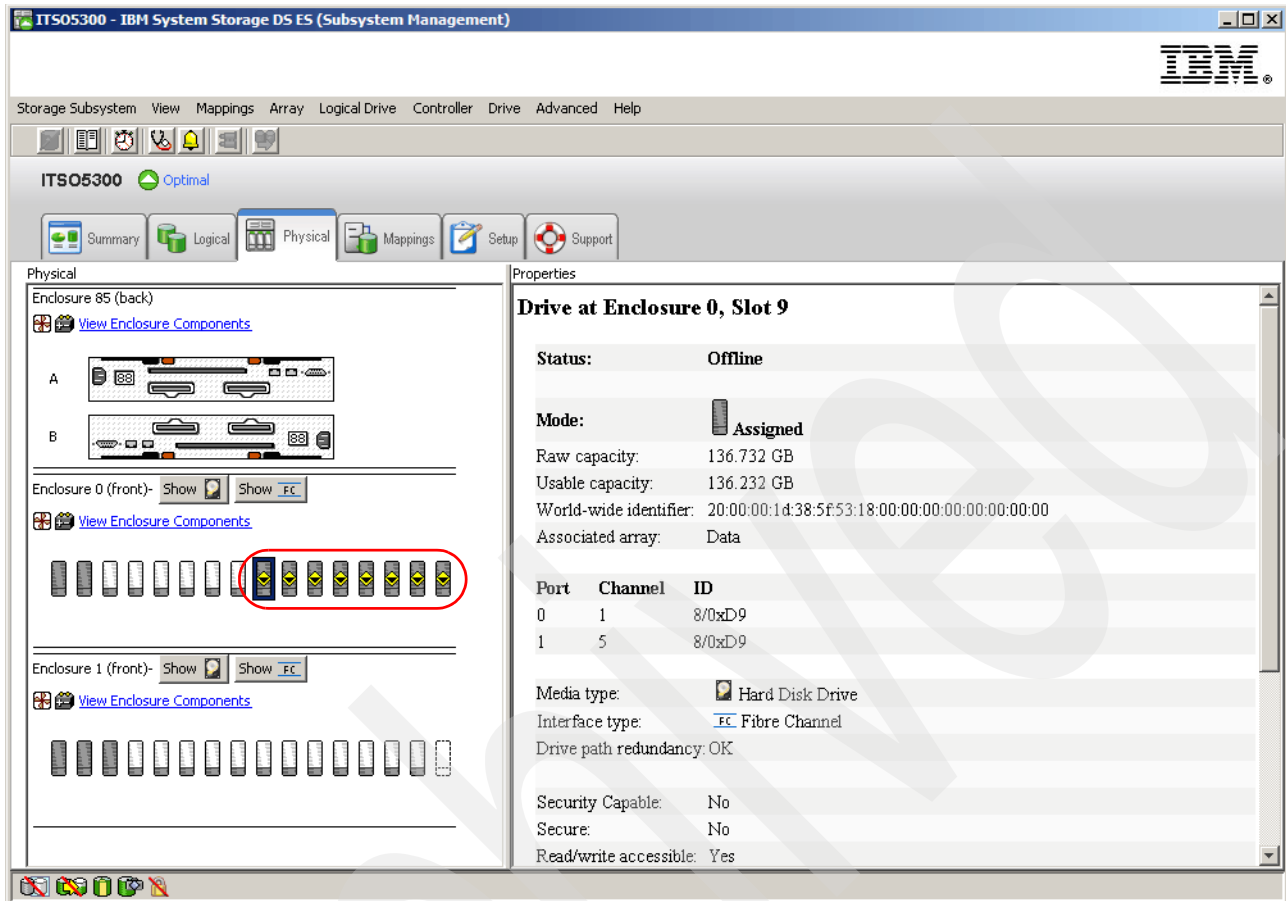

Figure 7-43 Export array: Disks offline
- Before you start removing the disks, check the Storage Manager window to make sure that all the disks and the array are in an offline status, as shown in Figure 7-43.